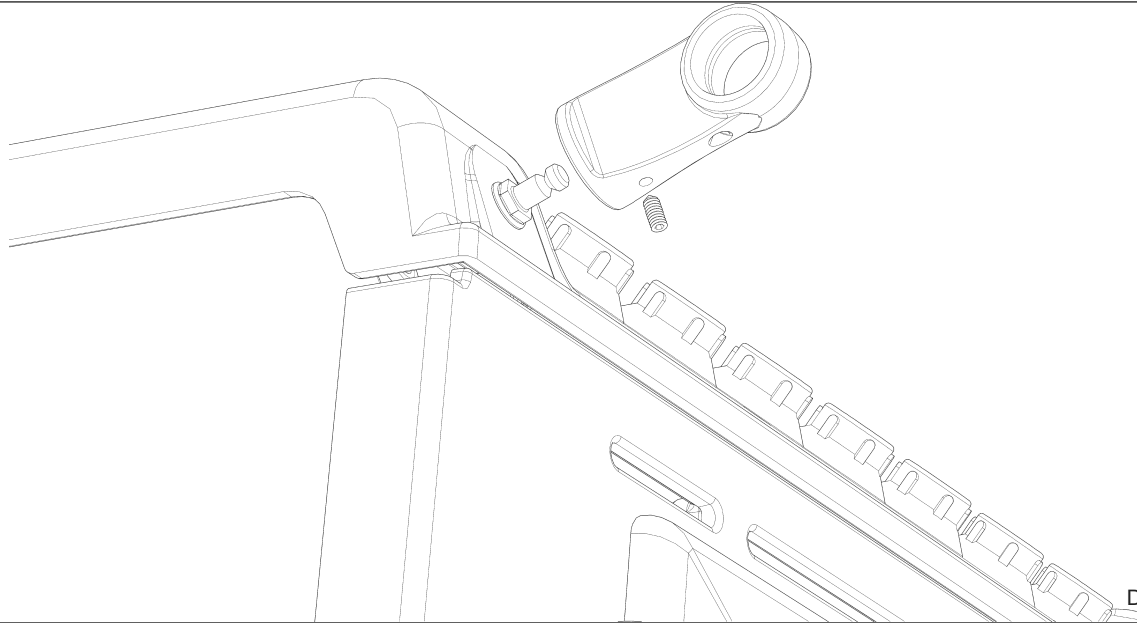

Fig. 10.7
- 5.** Fit the Module handrail bracket over the fixing stud located on the top plate. Lock into position by tightening the grub screw nearest the appliance. (See **Fig. 10.7**).